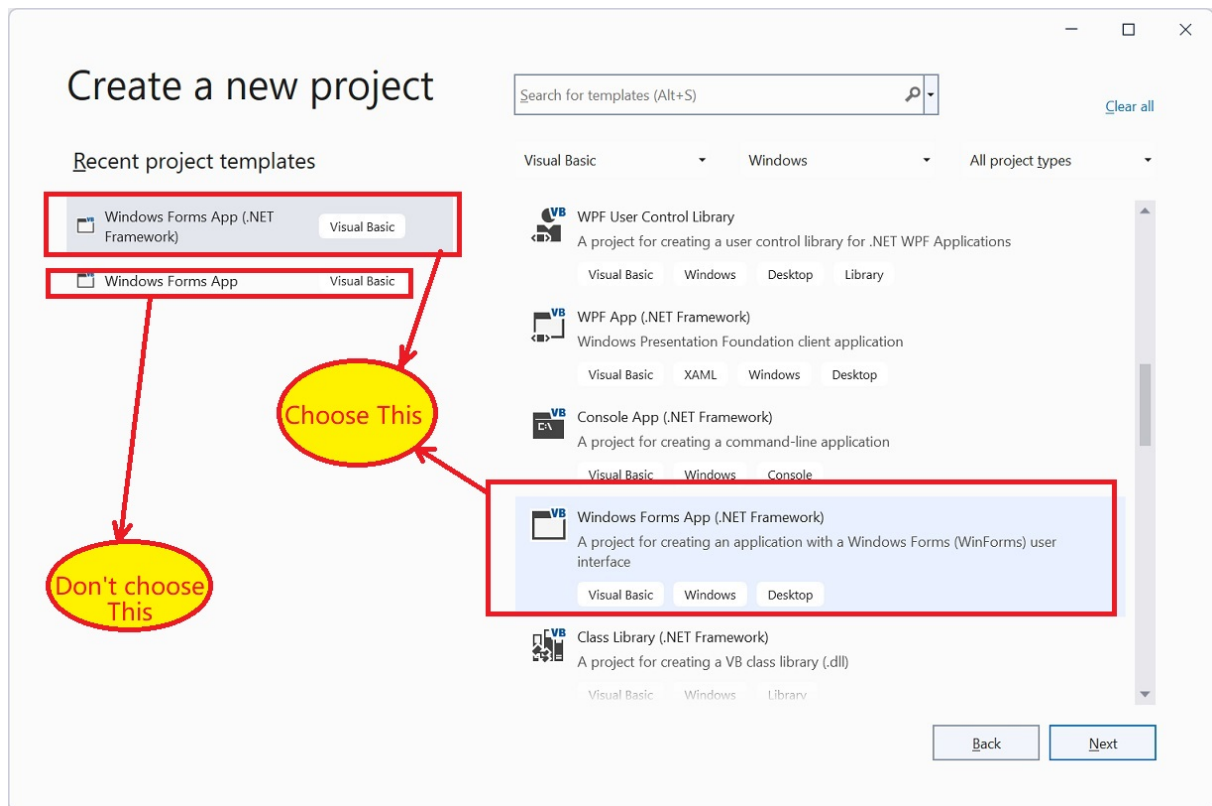

Fig.1 Create Windows Form App (.Net Framework)
2. We take Visual Studio Community 2022 as an example. Run Visual Studio, and create one project as shown as below Fig.1: (You can use C#, but we take VB.net as an example)